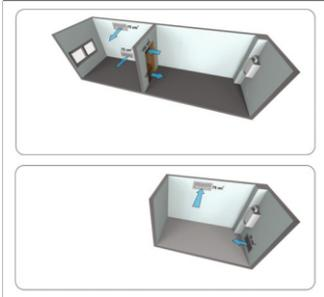

Figure 1.3.1
• This device is C3 class with the fan and a hermetic device. This device can also be used in B3 (the only waste gas is compressed) state. For this, the environment should be vented according to Figure 1.3.1. For each 1 kW capacity, total environment size should be 1 m3. Appropriate vents for air intake must be placed.